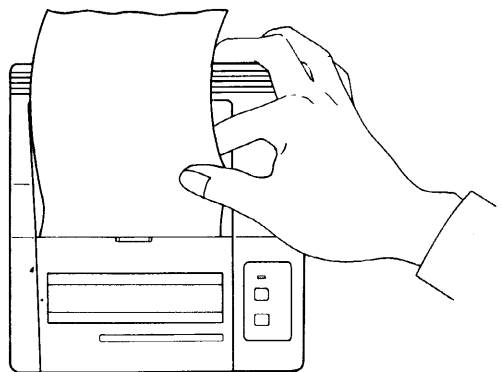

Figure 6. Inserting Paper
2. Insert the end of the paper into the slot in the bottom of the Printer (see Figure 6).